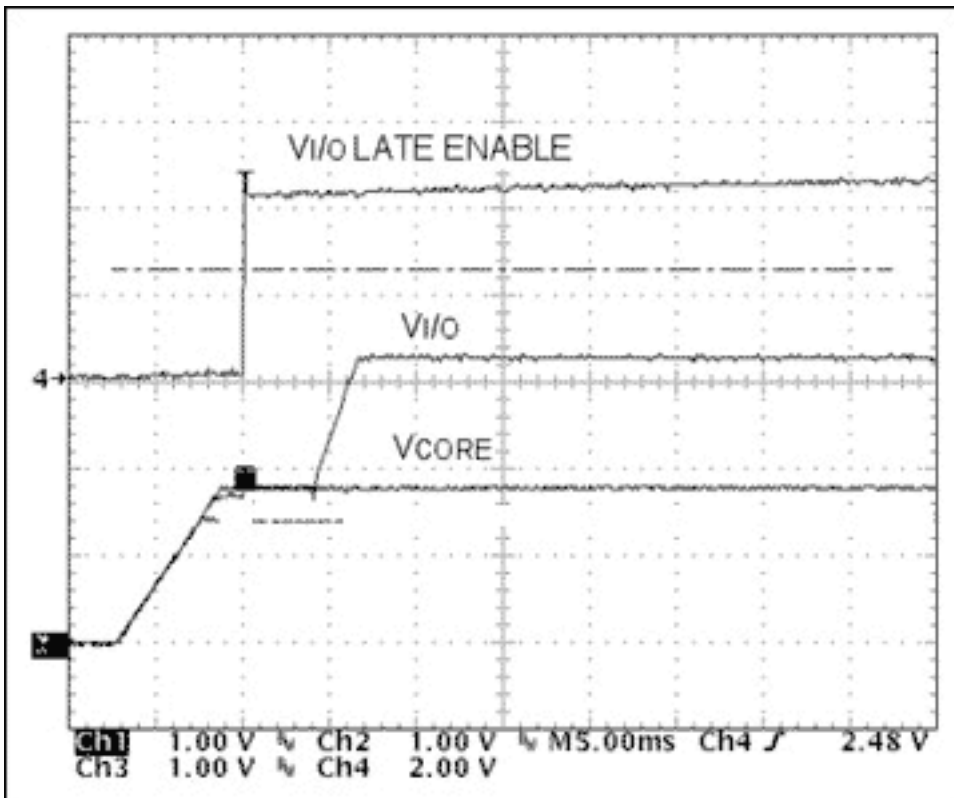

Figure 5. Startup operation, V_{CORE} enable precedes $V_{I/O}$ enable.
5. $V_{I/O}$ precedes V_{CORE} , and begins to rise at a rate determined by the I/O regulator characteristics. NOTE: Neither $V_{I/O}$ nor V_{CORE} should rise at a rate exceeding $6.6V/\mu s$. V_{CORE} rises with $V_{I/O}$ because the two regulator output lines are connected via the MOSFET. During this phase, the I/O regulator output supplies both the I/O and CORE loads and backdrives the CORE regulator output; both voltages are equal. [If V_{CORE} precedes $V_{I/O}$, V_{CORE} backdrives the $V_{I/O}$ supply; both voltages are equal. Refer to **Figure 5**.]